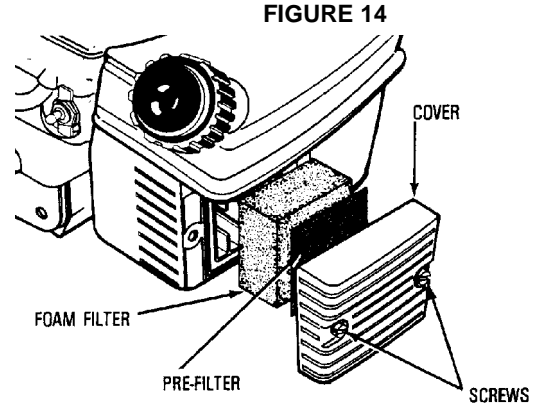

FIGURE 14
- To remove and install filter(s) (see Figure 14)\
- To service filter(s) (see Figure 14)
- Reassemble air cleaner as shown in Figure 14.